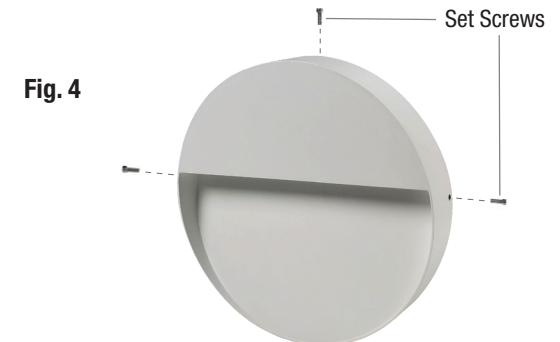

Fig. 4
7. Install Fixture onto Mounting Plate using supplied set screws. **Fig. 4**
6. Attach Green Ground Wire to inside of housing using holes provided. **Fig. 4**